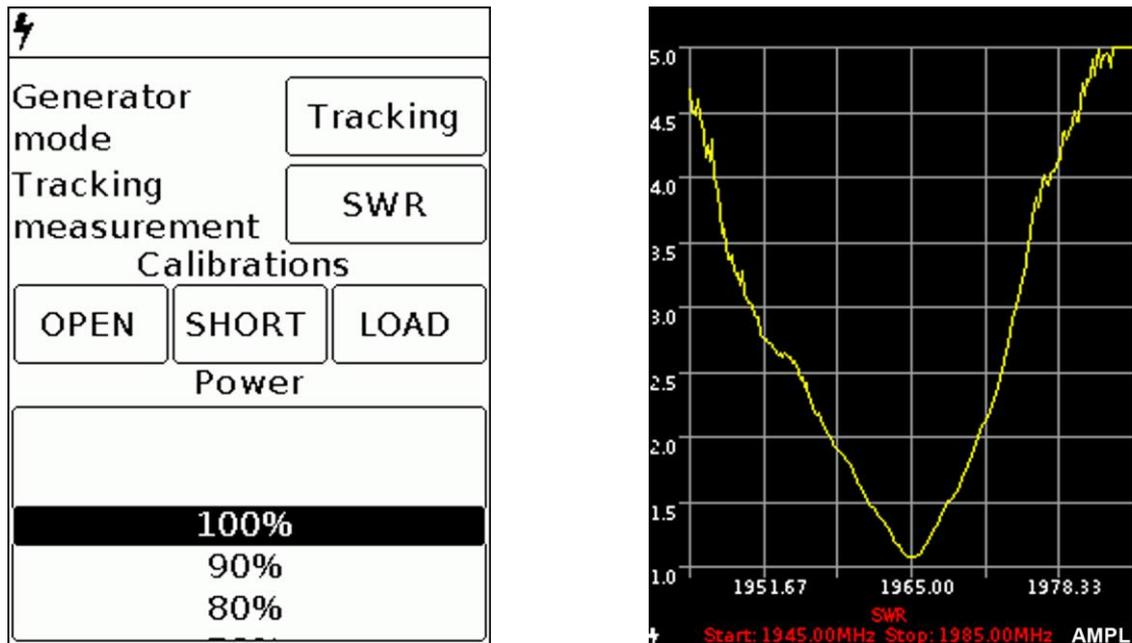

Figure 8.4.6 – Measurement the standing wave ratio in the SWR mode
8.4.4.1. To measure the standing wave ratio, select the generator mode «Tracking» and type **SWR** measurements (Figure 8.4.6). The graph will be displayed with the vertical axis as a numerical standing wave ratio. The horizontal axis shows the specified frequency range of the signal.